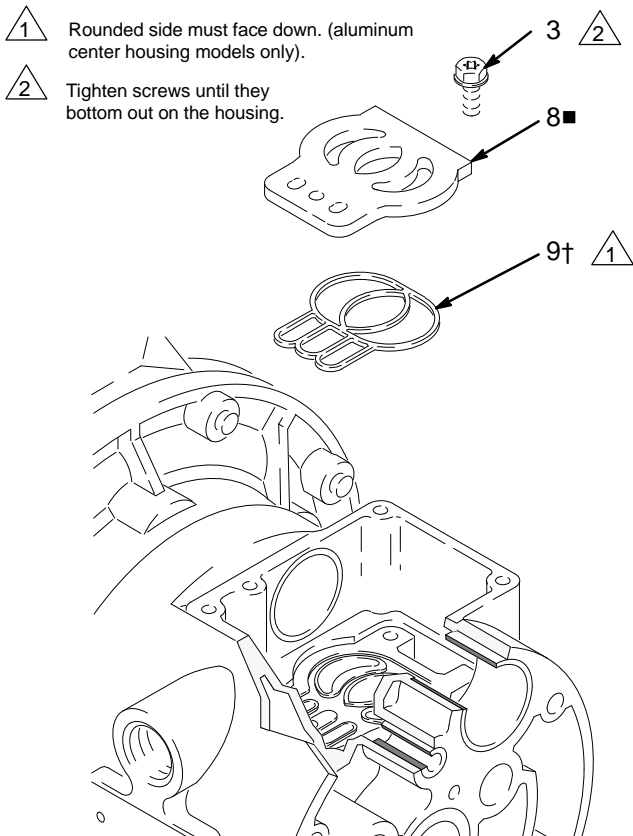

Fig. 10 04160
5. Inspect the valve plate (8) in place. If damaged, use a Torx (T20) screwdriver or 7 mm socket wrench to remove the three screws (3). Remove the valve plate (8) and, on aluminum center housing models, remove the seal (9). See Fig. 10.
2. On aluminum center housing models, install the valve plate seal (9†) into the groove at the bottom of the valve cavity. The rounded side of the seal **must face down** into the groove. See Fig. 10.
3. Install the valve plate (8■) in the cavity. On aluminum center housing models, the plate is reversible, so either side can face up. Install the three screws (3), using a Torx (T20) screwdriver or 7 mm socket wrench. Tighten until the screws bottom out on the housing. See Fig. 10.